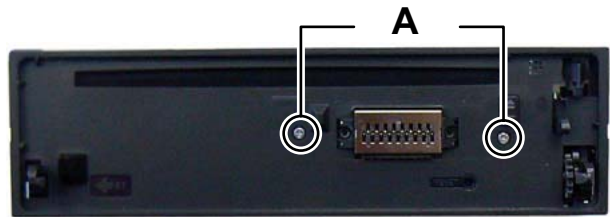

Fig.1
#### 3.1.1 Removing the FRONT CHASSIS assembly (See Fig.1, 2)
- (1) Remove the two screws **A** attaching the FRONT CHASSIS assembly. (See Fig.1)